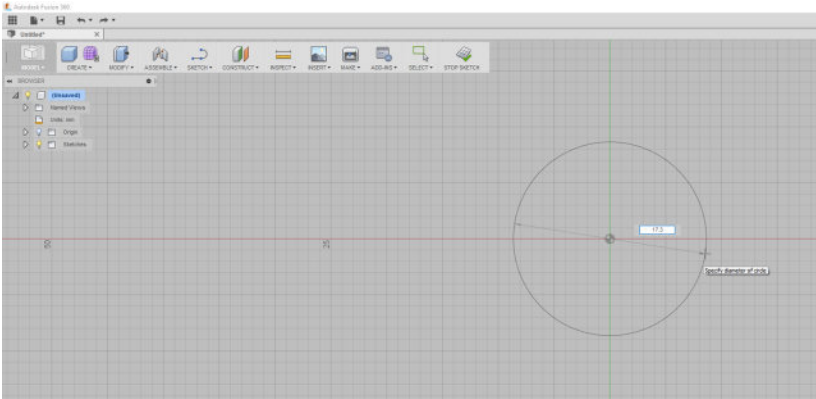

Figure 11-6. Drawing a circle with specific dimensions
5. Click once on the small circle. Where the red and green lines converge is where the origin is marked. As you move your mouse you will see how large the diameter of that circle is, as shown in Figure 11-6.